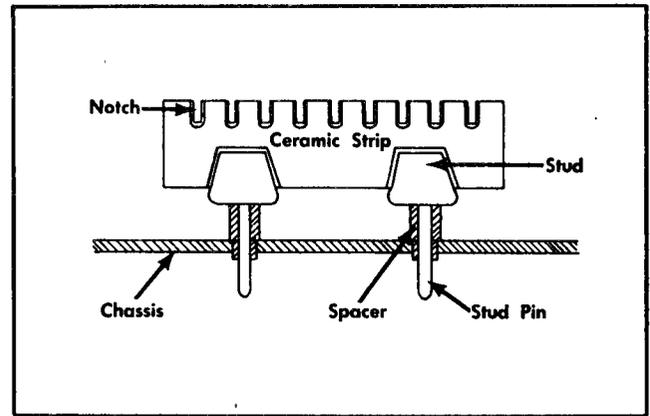

Fig. 4-4. Troubleshooting chart for Type 453.
**Ceramic Terminal Strip Replacement.** A complete ceramic terminal strip assembly is shown in Fig. 4-4. Replacement strips (including studs) and spacers are supplied under separate part numbers. However, the old spacers may be re-used if they are not damaged. The applicable Tektronix Part Numbers for the ceramic strips and spacers used in this instrument are given in the Mechanical Parts List.